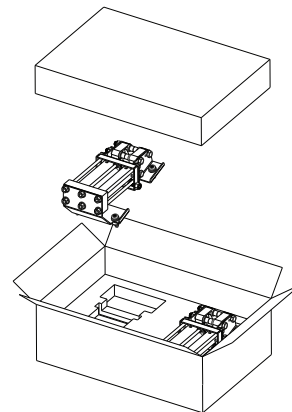

Figure 1
1. Remove S4S units from the main carton. There are 2 units per carton. **See Figure 1.**